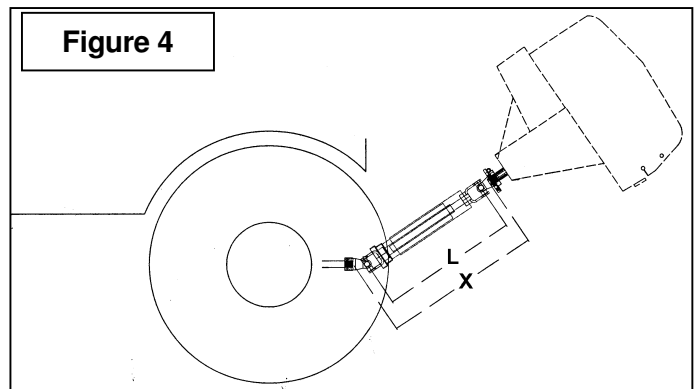

Figure 4
1. To determine the "L" length for your tractor model first find the "X" factor by measuring the horizontal distance between the end of the tractor's drive shaft and the end of the snowblower's driven shaft when the snowblower is in transport position as shown on Figure 4